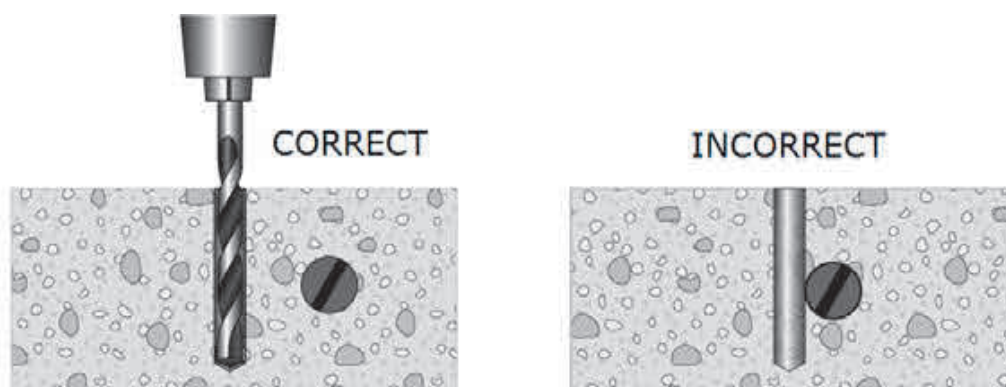

Figure 133: Drilling into concrete with rebar.
**If you strike steel reinforcement when drilling, you must have damage inspected. As directed, fill the hole with approved grout and select a new location according to minimum spacing requirements. Drill a new hole (see Figure 133, page 95).**